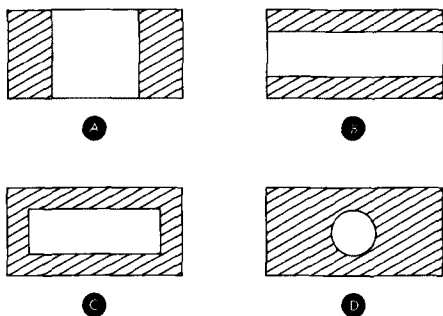
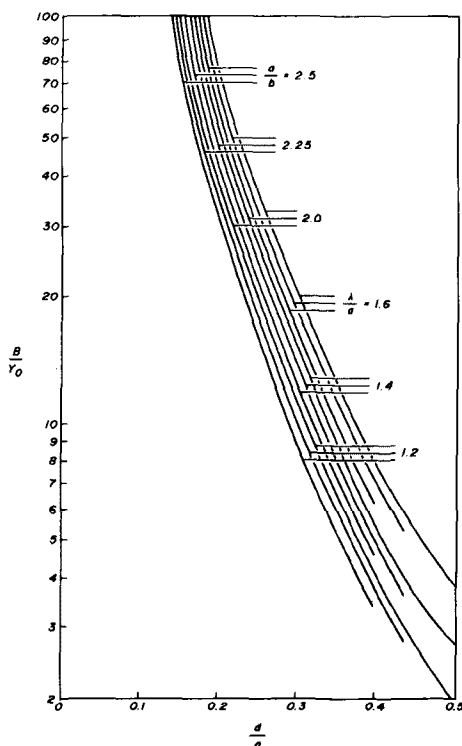

fig. 3. Various iris configurations. A and D are inductive; B and C are capacitive and resonant respectively. The circular iris in D is easiest to make.
fig. 4. Relative susceptance of a centered circular aperture as a function of the ratio of iris diameter to waveguide broad dimension.
**Iris.** An iris is an obstruction placed into a waveguide system that electrically has a value of reactance or its inverse, susceptance. Irises can take various shapes (fig. 3) and can be inductive, capacitive, or resonant. From the standpoint of ease of construction, a centered circular aperture is the simplest form to make. The circular iris is inductive and its value can be calculated; however, it's easier to use the graph12 in fig. 4.
The graph gives a good approximation for the value of normalized susceptance,  $\frac{B}{Y_0}$  (that is,  $b_e$ ) as a function of the ratio of iris diameter to the broad dimension of the waveguide. This is done for various waveguide aspect ratios and various ratios of operating-wavelength-to-guide width. The values of  $b_e$  from the chart are in good agreement with measured values. Now that the iris susceptance is calculated using fig. 4, cavity length can be found.
So in determining cavity length, choose an iris area between 20 and 25 per cent of the waveguide cross-sectional area. Since the circular iris area is  $\pi d^2/4$ , the diameter can be found. The next step is to design the cavity to operate at the highest frequency of interest. The cavity can always be tuned downward by a dielectric screw tuner. The operating frequency determines the wavelength. Knowing the  $a$  and  $b$  dimensions of the guide, the value of the normalized susceptance,  $b_e$ , can be found from fig. 4. This value is then substituted into eq. 2 to find cavity length  $\ell$ .
From fig. 4, the value for  $b_e$  can be found, providing the following ratios are calculated:
Using these numbers in fig. 4,  $b_e$  is 14. Next substitute the values for  $b_e$  and  $\lambda_g$  in eq. 2 and calculate cavity length: